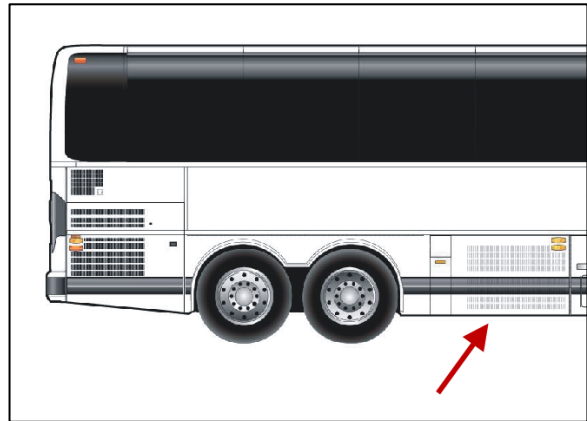

Figure 1
1. Locate the evaporator compartment (Figure 1).